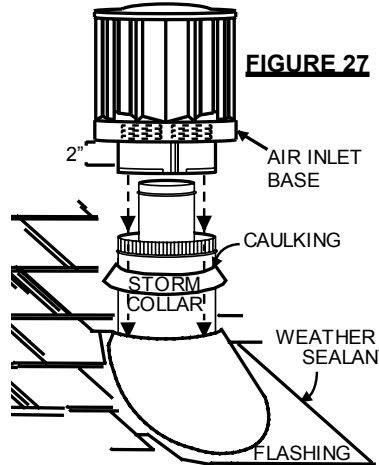

FIGURE 27
4. Thread the air terminal connector / vent pipe assembly down through the roof. The air terminal must be located vertically and plumb. Attach the air terminal connector to the roof support, ensuring that the top of the air terminal is 16" above the highest point that it penetrates the roof. Figure 27. **DO NOT CLAMP THE FLEXIBLE VENT PIPE.**
5. Remove nails from the shingles, above and to the sides of the chimney. Place the flashing over the air terminal connector leaving a min. 3/4" of the air terminal connector showing above the top of the flashing. Slide the flashing underneath the sides and upper edge of the shingles. Ensure that the air terminal connector is properly centred within the flashing, giving a 3/4" margin all around. Fasten to the roof. Do not nail through the lower portion of the flashing. Make weather-tight by sealing with caulking. Where possible, cover the sides and top edges of the flashing with roofing material. Figure 27.
6. Aligning the seams of the terminal and air terminal connector, place the terminal over the air terminal connector making sure the vent pipe goes into the hole in the terminal. Secure with the three screws provided. Figure 27.
7. Apply a heavy bead of weatherproof caulking 2" above the flashing. Note: Maintain a minimum 2" space between the air inlet base and the storm collar. Install the storm collar around the air terminal and slide down to the caulking. Tighten to ensure that a weather-tight seal between the air terminal and the collar is achieved. Figure 27.